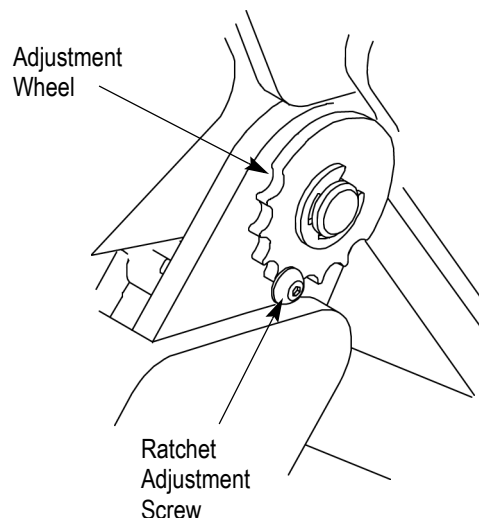

Figure 9
5.4. Ratchet Adjustment (Figure 9)